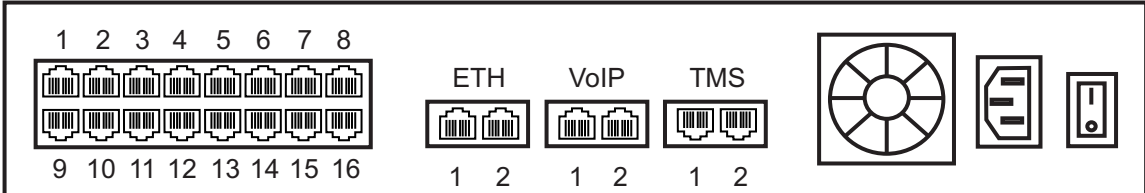

Figure 2.4 16-Port Interface to the PSTN
A TMG3200 with 16 RJ48 type ports enables the connection to T1/E1/J1 lines. The termination impedance is set at 100 ohms for T1 lines and 120 ohms for E1 lines. It is possible to connect an external balun in order to convert to 75 ohms. See figure 2.4 on page 13
1. Start with port 1 located at the top and left-most position. Connect one cable between this port and the T1/E1/J1 line (figure 2.4 on page 13).